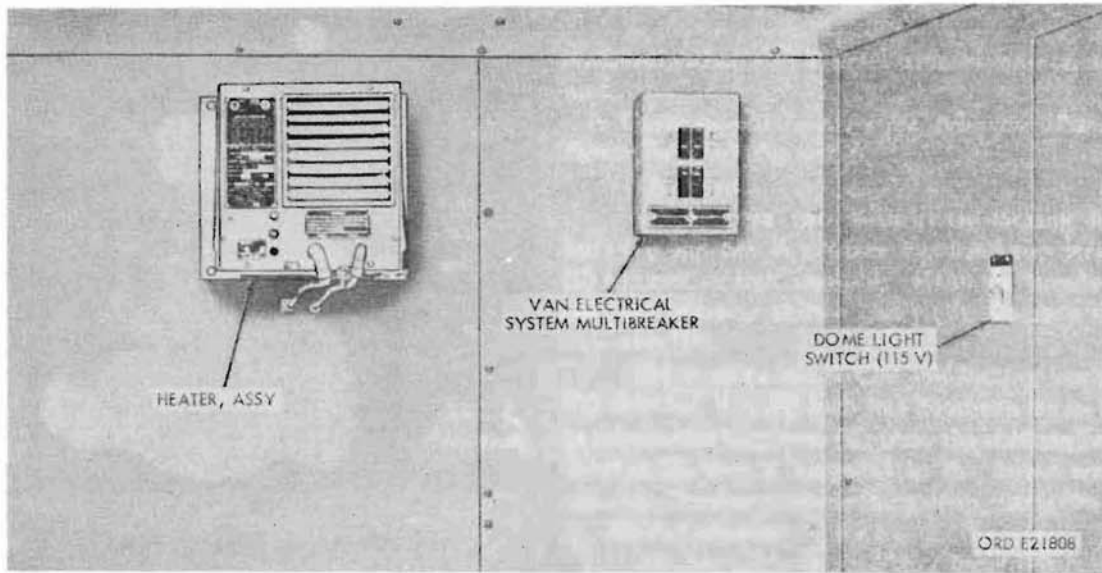
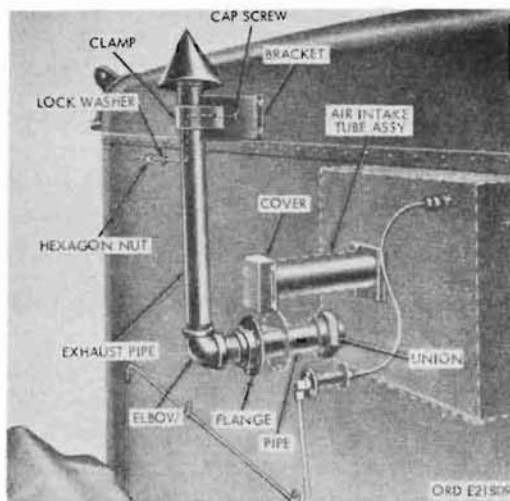

Figure 373. Van body heater, multibreaker and dome-light switch
Figure 374. Heater exhaust and air intake
at upper center (fig. 373). Heater exhaust is carried out of the van by a pipe passing through the front wall (fig. 374). This pipe connects with an exhaust pipe fastened to the front of the van body roof by a clamp and a bracket. Air for heater combustion is supplied by an air intake tube assembly passing through the van body front wall. The outer end of the tube is protected by a cover, attached to the van body outer wall (fig. 374).
- (5) Remove interior exhaust pipe from heater by disconnecting union (fig. 374).